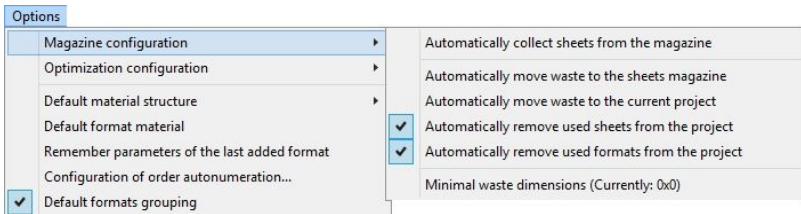

Fig. 31 – options of configuration of the sheets magazine – default view
1) **'Magazine configuration'** – enables you to manage the sheet magazine and waste produced during cutting (Fig. 31).